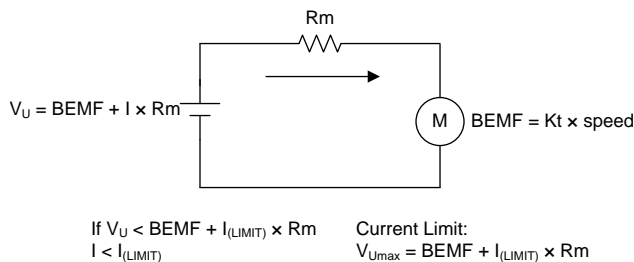

图 14. Current Limit
The current-limit function provides active protection for preventing damage as a result of high current. The soft current-limit does not use direct-current measurement for protection, but rather, uses the measured motor resistance ( $R_m$ ) and motor velocity constant ( $K_t$ ) to limit the voltage applied to the phase (U) such that the current does not exceed the limit value ( $I_{(LIMIT)}$ ). The soft current-limit scheme is shown in 图 14 based on the calculation in 公式 4.